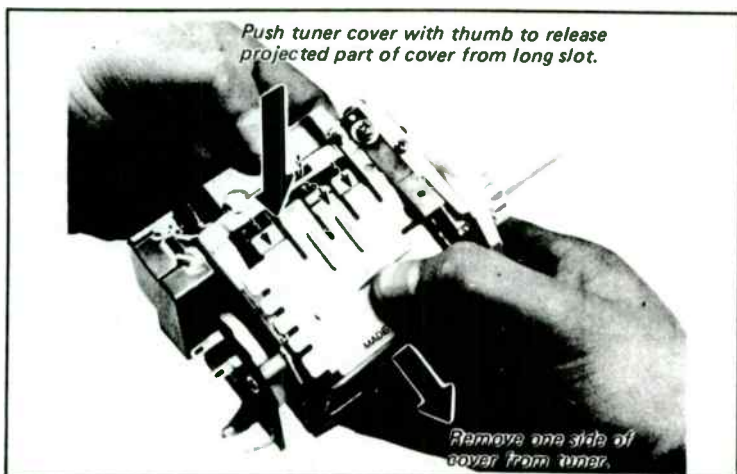

Fig. 6-7. Removing tuner cover.
■ Push the tuner cover to release the projection on the cover from the long slot. See Fig. 6-7.